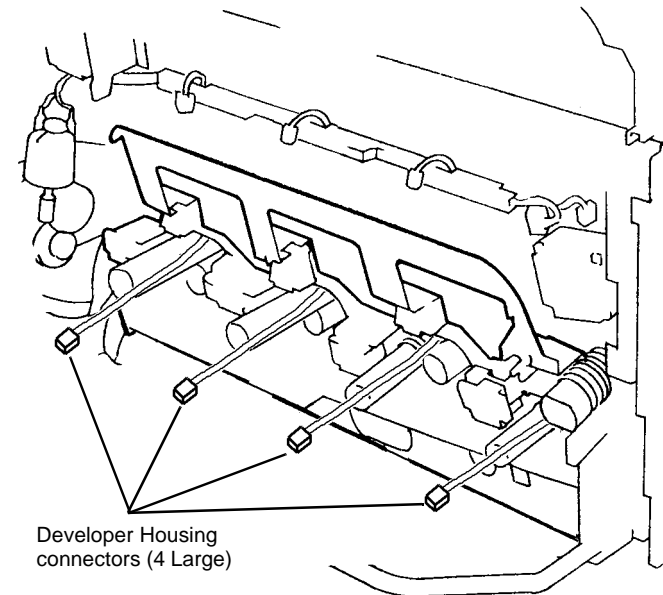

Figure 1 Disconnecting Developer Housing Connectors
9. Disconnect Developer housing connectors, 4 large and 4 small (small not shown). Position wires straight out from machine. Wires remain stationary while removing Plate Assembly (Figure 1).